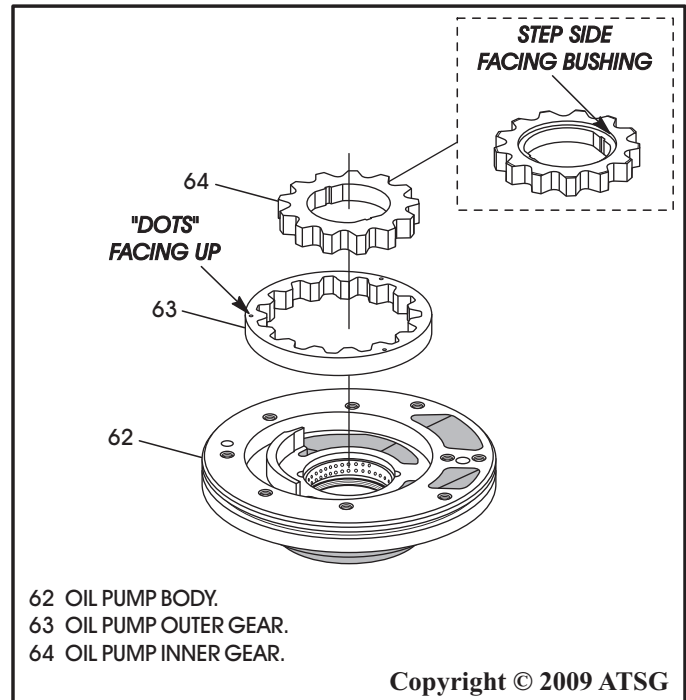

Figure 87
8. Install the outer pump gear into oil pump body, with the "dots" on gear facing up, as shown in Figure 87.
9. Install the inner pump gear into oil pump body, with the step on the inside diameter facing the bushing, as shown in Figure 87.